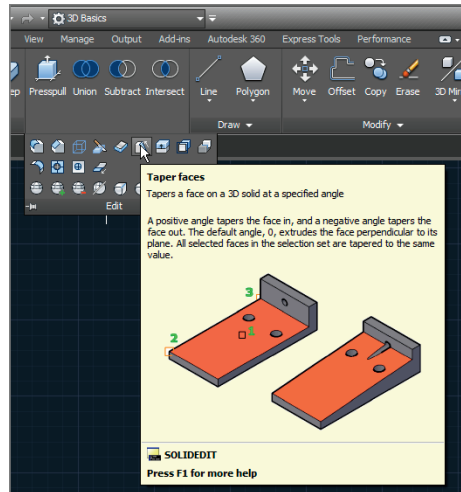

FIGURE 1.12 Tooltip and illustration
6. Click the Edit button at the bottom of the Edit panel to reveal additional tools. Hover the mouse over one of the tools to display a tooltip that identifies the tool and describes its function. Holding the cursor still a while longer reveals an image that illustrates what the tool does (see Figure 1.12).
7. Observe that the bottom of the tooltip shown in Figure 1.12 reveals the command name (SOLIDEDIT in this case). The ribbon, menus, toolbars, and palettes are all graphical alternatives to typing commands.